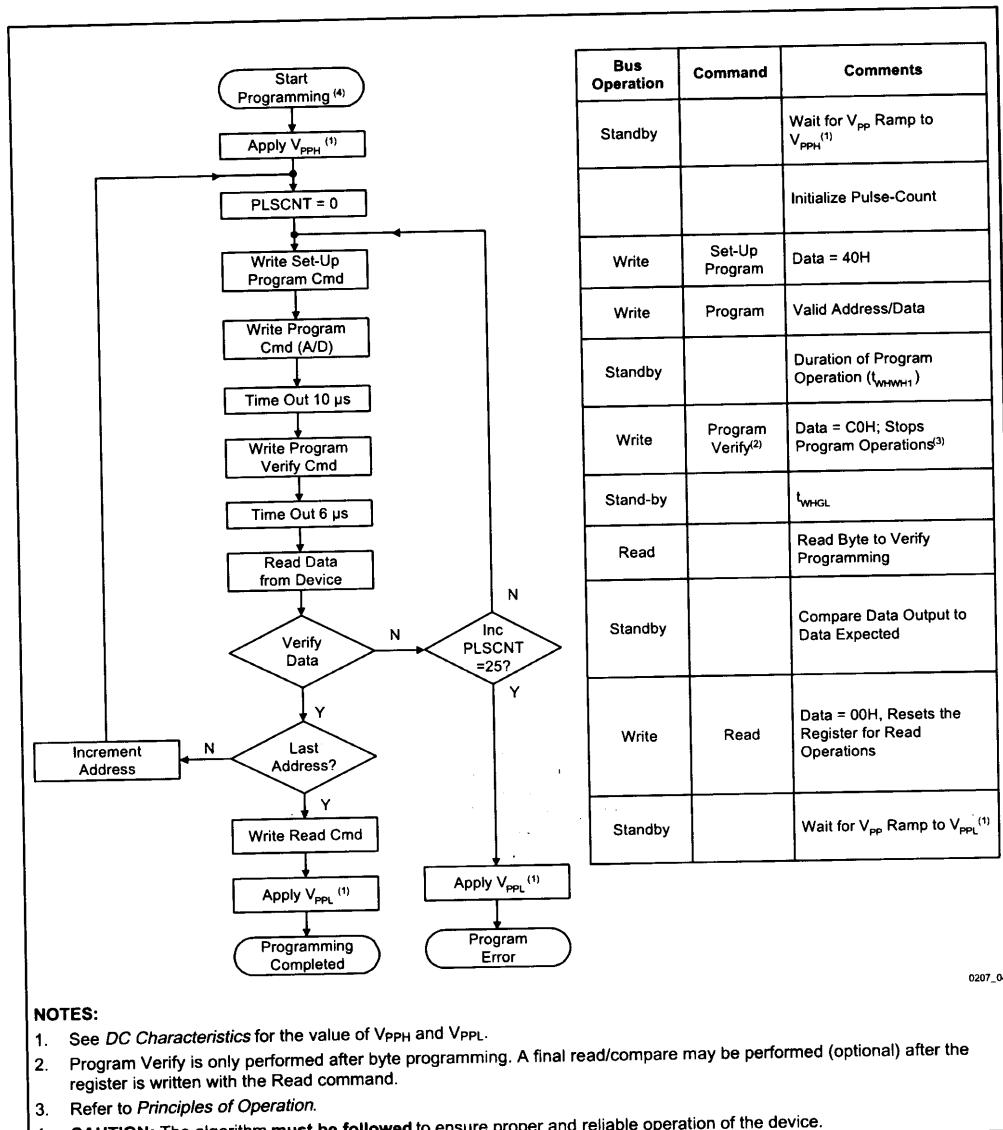

Figure 4. 28F010/28F020 Quick-Pulse Programming Algorithm
6. Figure 4 illustrates the 28F010/28F020 Quick-Pulse Programming Algorithm flowchart.
The quick-pulse programming algorithm uses programming operations of 10 μ s duration. Each operation is followed by a byte verification to determine when the addressed byte has been successfully programmed. The algorithm allows for up to 25 programming operations per byte, although most bytes verify on the first or second operation. The entire sequence of programming and byte verification is performed with V_{PP} at high voltage. Figure 4 illustrates the *28F010/28F020 Quick-Pulse Programming Algorithm* flowchart.